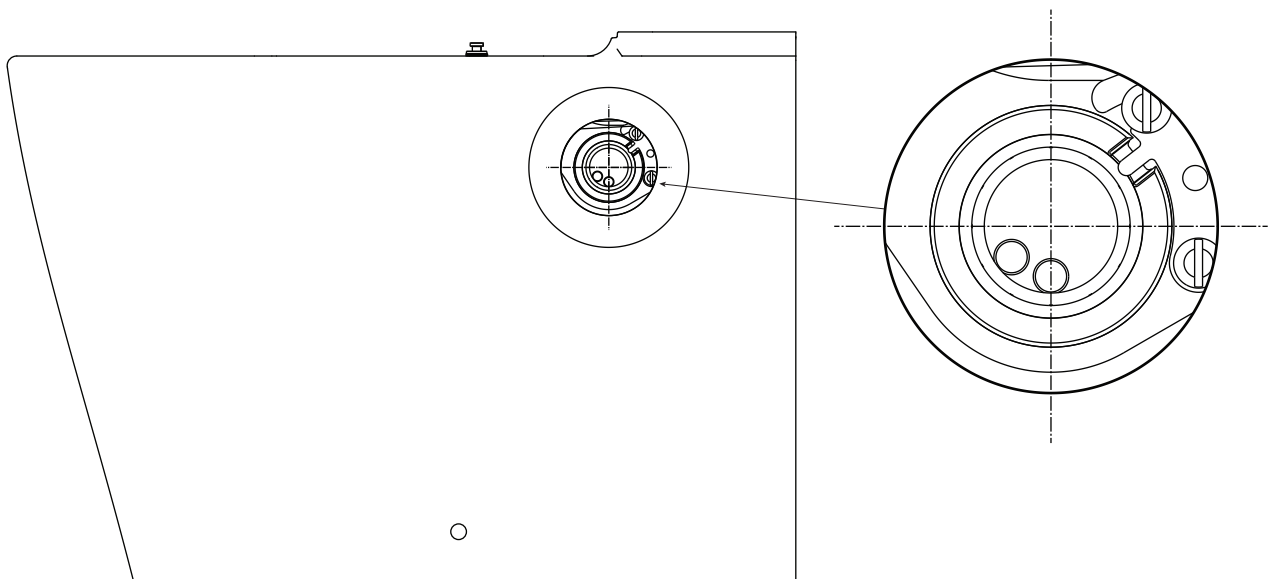

Fig. 4
4. Move the bracket back or forward to ensure bracket hole is aligned with hole in pan as shown above in **Fig.4**. Once aligned tighten four fixing bolts securely.